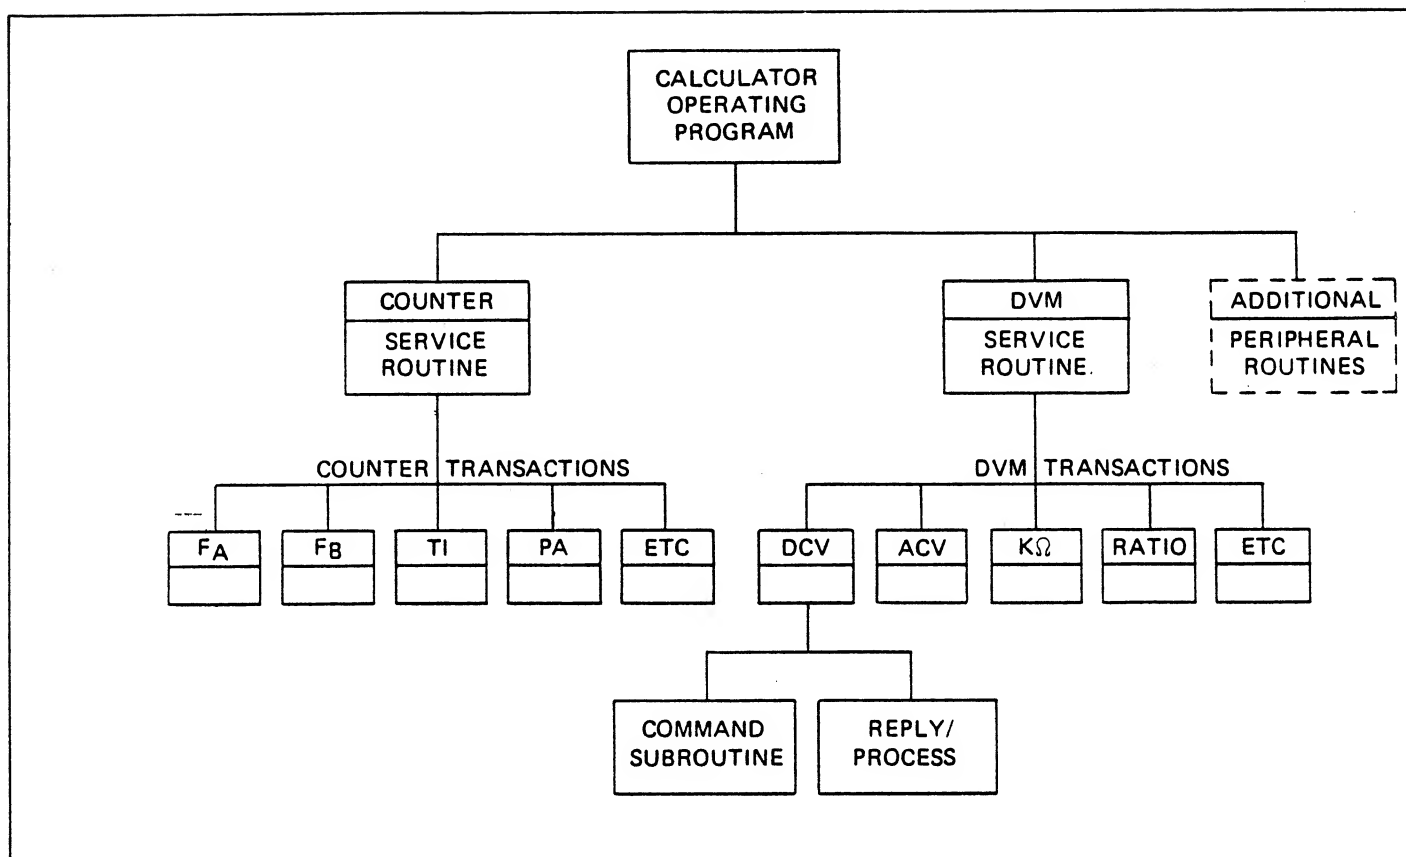

Figure 3.15 - Software Organization
3.4.28.2 A calculator, computer or other controller device software package usually includes a collection of transactions, service routines and subroutines for controlling all of the elements of a system. The relationship of the various parts of a typical software operating system are illustrated in Figure 3.15. A complete operating system may include the main executive program, the keyboard monitor program, some form of statistical routine, an arithmetic or decision making routine and a set of peripheral servicing routines. Figure 3.15 illustrates a portion of a software package referred to as an operating system. The portion illustrated is a typical collection of peripheral service routines. These